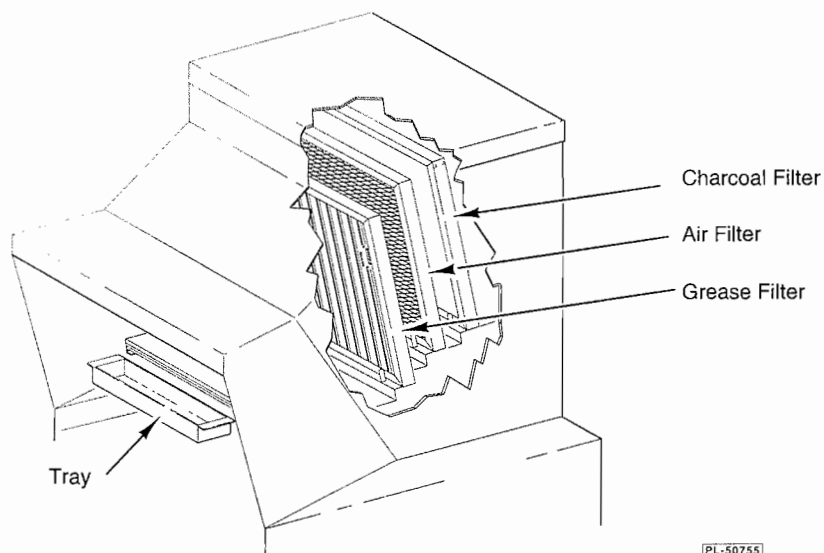

Fig. 31
Clean the air filters and hood weekly (Fig. 31).
4. Scrub the hood interior and tray (Fig. 31) with warm soapy water, nylon pad or Scotchbrite as required.